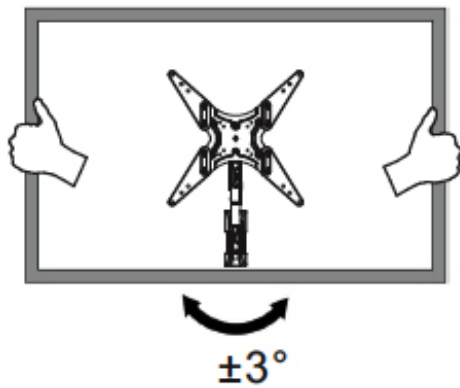

Figure 10
1. Adjust the horizontal axis up to 3 degrees left/right for visual alignment, see **Figure 10**.